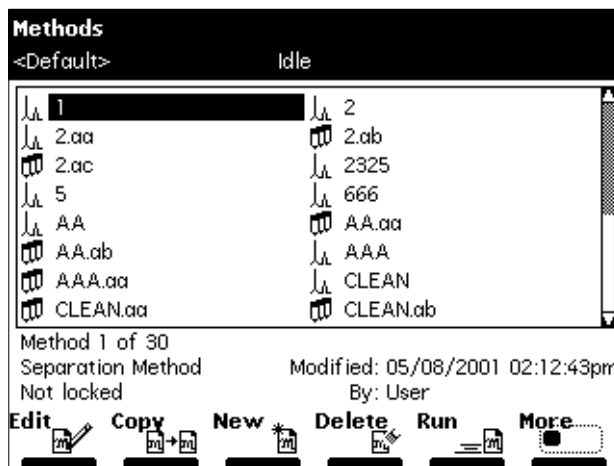

Figure 3-1 Methods Screen
You create and edit separation methods and sample sets using the Methods screen (Figure 3-1) and six associated screens. In the Methods screen, separation methods are identified by a chromatogram icon  and sample sets are identified by a multiple vial icon .
1. Press the **Develop Methods** screen key in the Main screen. The Methods screen appears (Figure 3-1).